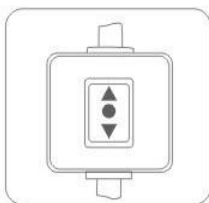

Figure 1
1. Manual control of power switch (Figure 1)